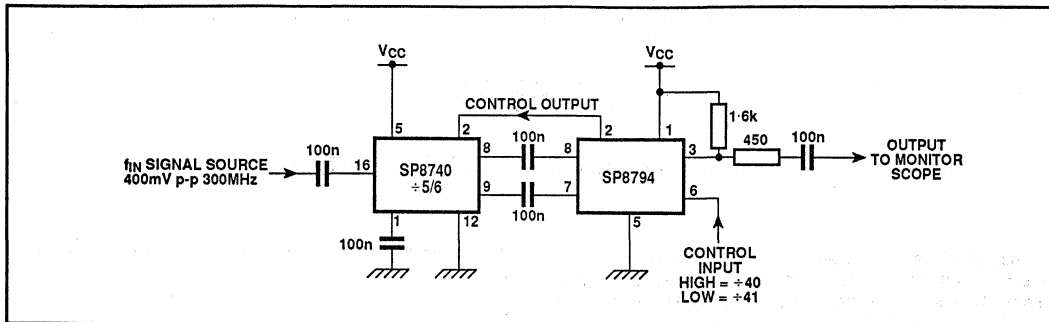

Fig. 4 Test circuit
1. The test configuration for dynamic testing is shown in Fig.4.
1. The device will normally be driven by capacitively coupling the inputs to the outputs of a 2-modulus divider, as shown in Figs. 4 and 5. The maximum frequency of the device when used as a controller is limited by the internal delays to 60MHz. However, when used as a +4 prescaler, it will operate at frequencies in excess of 120MHz, the maximum frequency being limited by saturation of the output stage.
6. The control output, which includes an internal 16k Ω pull-down resistor, is ECL compatible and will interface directly to ECL 2-modulus dividers such as the GPS SP8600 and SP8700 series as shown in Figs. 4 and 5.